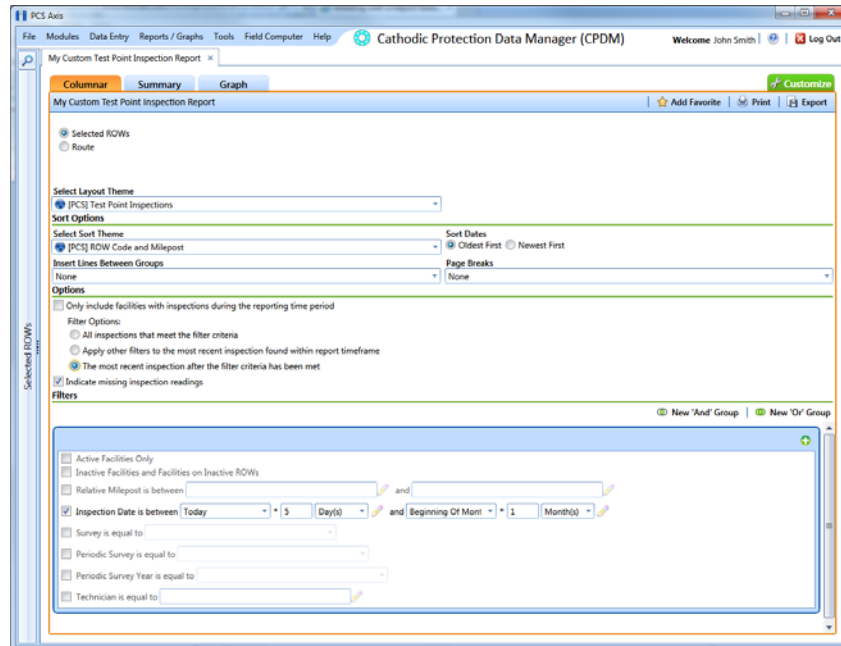

Figure 14-29. Report Options
- 7 When the report options window opens, select one of the following options to choose which facility records to include in the report (Figure 14-29, page 564):
- 13** Select one or more of the following options as needed in the *Options* group box. Date range in filter criteria is determined by considering all time frame filters, such as inspection date, survey, and periodic survey filters (Figure 14-29, page 564).